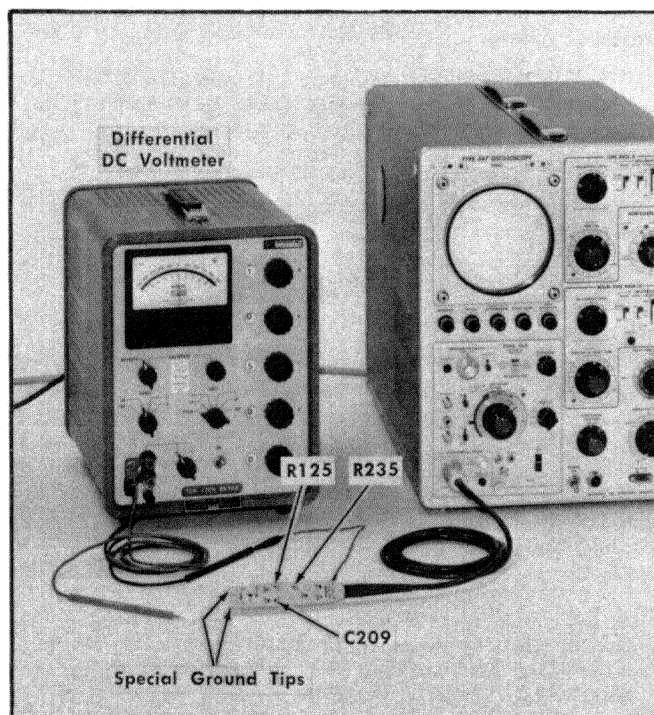

Fig. 6-4. Equipment setup for steps 1 and 2.
a. Equipment setup, adjustment location and test point are shown in Fig. 6-4.
b. Attach the special ground tips (item 20) to the P6046 Probe + and - Input tips.
c. CHECK—Drain Voltage. Using the Differential Voltmeter (item 8), check for 10.5 V DC  $\pm 0.25$  V at the C209 adjusting screw with respect to the Probe ground lug. (See Fig. 6-4).
d. Adjust—DRAIN VOLTS (R125, Fig. 6-4) for 10.5 V DC at the C209 adjusting screw.
a. The preliminary control settings apply. Locations of adjustments are shown in Fig. 6-4.
- h. ADJUST—GAIN SWITCHING BAL (R235, Fig. 6-4) to position the trace to graticule center. A slight amount of drift around the adjusted position may be present at 1 mV sensitivity.)